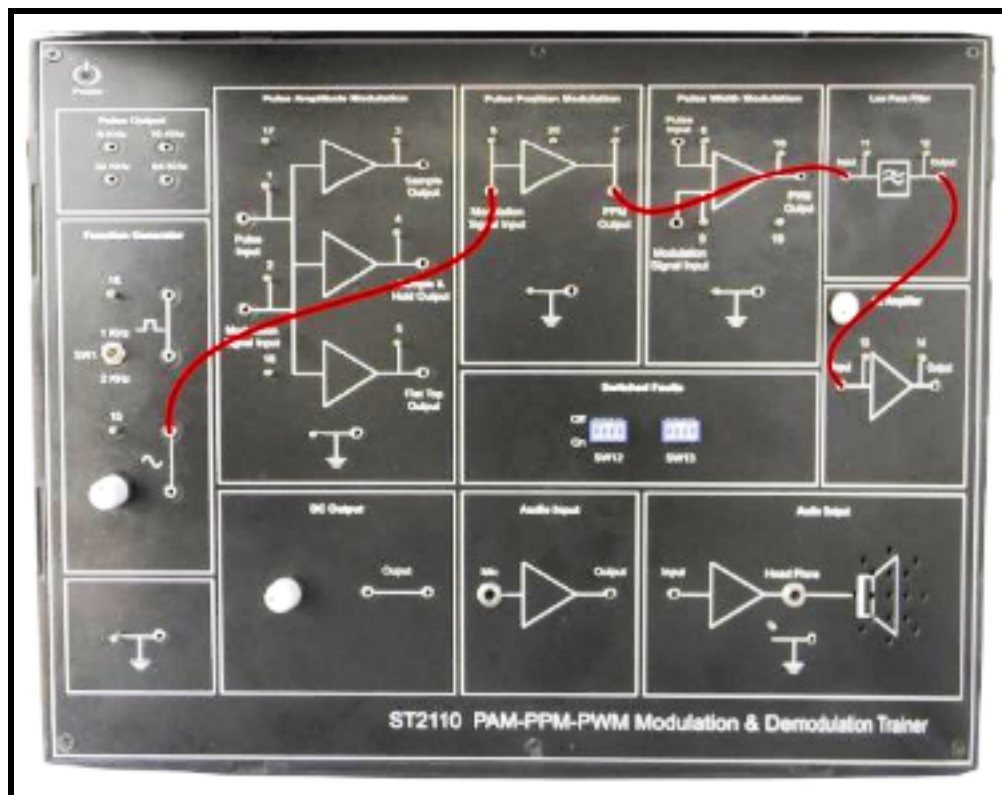

Fig. 2: PPM configuration
1. Connect the circuit as shown in Fig. 2